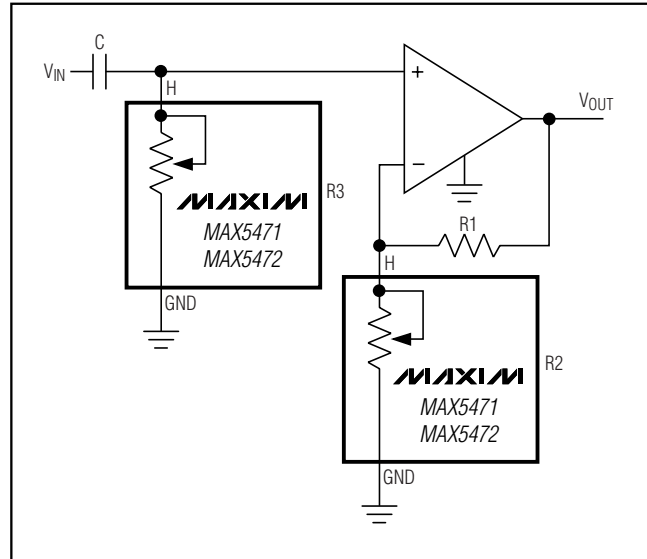

Figure 6. Programmable Filter
Figure 6 shows the configuration of a 1st-order programmable filter. The gain of the filter is adjusted by R2, and the cutoff frequency is adjusted by R3. Use the following equations to calculate the gain (G) and the 3dB cutoff frequency (f_c):